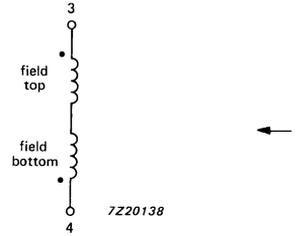

Fig. 2b Field coils.
- **Field deflection coils, series connected** (Fig. 2b);